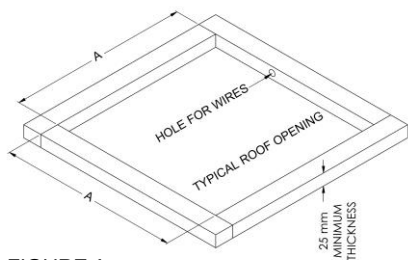

FIGURE 1
3. Examine the roof opening. If the opening is smaller than dimensions shown in the chart in Figure 1, the opening must be enlarged.
- B. If a roof vent opening is not used, a new opening (See Figure 1) will have to be cut into the vehicle roof. A matching opening will also have to be cut into the interior vehicle ceiling. If the ceiling opening is carpeted, snagging could occur. After the opening in the roof and interior ceiling are the correct size, a framed support structure must be provided between the exterior roof top and interior ceiling. The reinforced framed structure must provide the following guidelines:
Airxcel, Inc. recommends that the spacing from the vehicle roof top to the interior ceiling top be no less than 25mm. A typical support frame is shown in Figure 1.